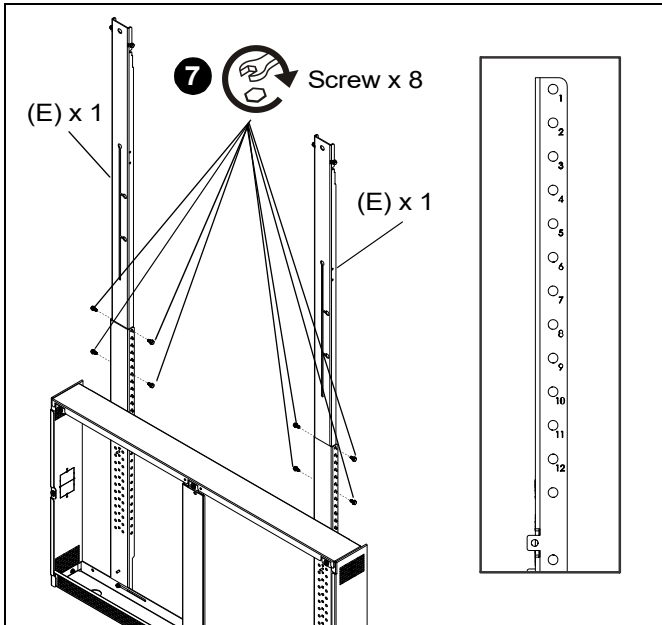

Figure 3
6. Remove the four 1/4-20 x 1/2" hex screws from each of the top uprights (E). (See Figure 3)
7. Slide the top upright (E) into each bottom upright (F/G). Ensure both top uprights are positioned at the same height from Table 1 and reinstall the eight 1/4-20 x 1/2" hex screws. (See Figure 3)